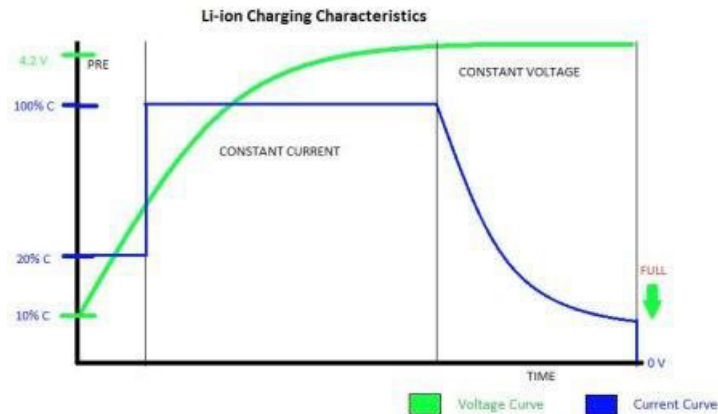

Figure 1. Typical Li-ion Battery Charging Curve
Batteries generally go through two phases while charging: constant current (CC) and constant voltage (CV). Figure 1 shows the typical charging curve for a 4.2V lithium-ion (Li-ion) battery. CC is used roughly for the first 67% of charging, when most of the energy transfers from the charger to the battery. CV kicks in during the last 33% of the remaining charging time to help charge the battery fully and maintain a full charge. Some chargers pump small currents (also called trickle charging) during CV to account for discharging currents and keep the battery voltage fully charged. The time it takes for the battery to fully charge depends on its capacity and maximum allowable charging current, which is a function of battery chemistry and ambient temperature. For example, if you have a Li-ion battery with a capacity of 3000mAh and a charge rate of 0.8C (where C refers to the current needed to charge the battery in one hour, which is the default rate battery manufacturers recommend to prolong battery life), the battery will need two to three hours to fully charge.